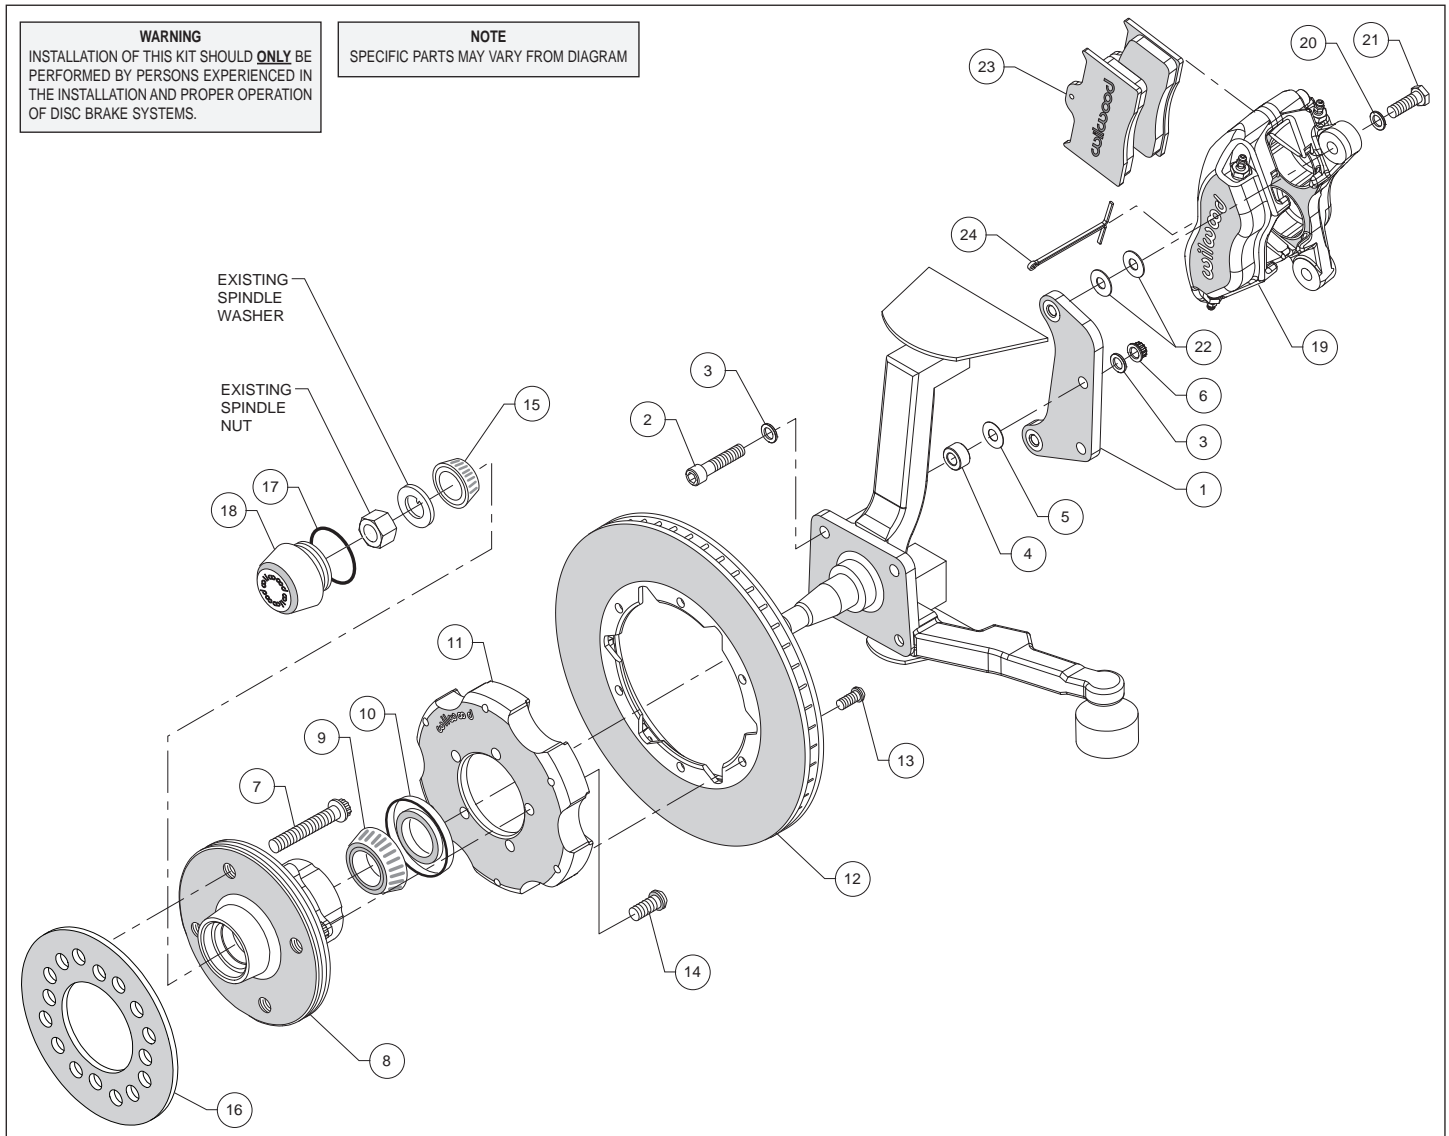
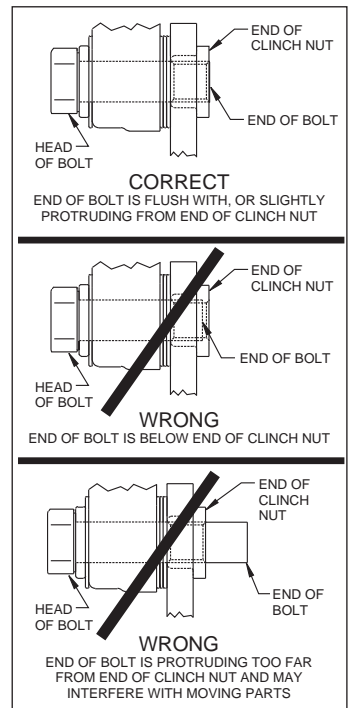

Figure 1. Typical Installation Configuration
Figure 3. Clinch Nut Engagement Diagram
Assembly Instructions (numbers in parenthesis refer to the parts list, on the preceding page and Figure 1): **CAUTION:** All mounting bolts must fully engage clinch nuts. Be sure to check that all bolts are either flush or protruding through flanged side of clinch nut after shimming, Figure 3.
- The caliper mount bracket (1) should initially be installed with clean, dry threads on the mounting bolts. Orient the bracket as shown in Figure 1 and Photo 1, and install using bolts (2), washers (3) and nuts (6). Place one spacer (4) and one shim (5) between the spindle to start, Figure 1. Ensure that the flanged heads of the clinch nuts in the bracket are facing outboard, Photo 1. Temporarily tighten the mounting nuts. **NOTE:** The bracket must fit squarely against the mounting points on the spindle. Inspect for interference from casting irregularities, machining ridges, burrs, etc.
- Check that the bracket is aligned parallel to the rotor by assembling and installing hub/rotor per steps below, Photo 2. If not, add or subtract shims (5) between spacer and bracket, Figure 1.
- Mount the hat (11) to the hub (8) using bolts (14), as shown in Figure 1 and Photo 6. Using an alternating sequence, apply red Loctite® 271 to the threads, and torque to 55 ft-lb.
- Orient the rotor (12) and the hat/hub assembly (8/11) as shown in Figure 1 and Photo 7. Attach the rotor to the hat using bolts (13). Using an alternating sequence, apply red *Loctite*® 271 to the threads, and torque to 25 ft-lb.
- Screw dust cap (18) into hub (8), Photo 9. Friction created by the o-ring (17) on the dust cap keeps it from unscrewing.
- NOTE:** Please reference the caution statement at the beginning of the assembly instructions. Mount the caliper (19) onto the caliper mounting bracket (1) using bolts (21) and washers (20), as shown in Figure 1. Initially place two .035" thick shims (22) on each bolt between the caliper and the bracket, Photo 10. Temporarily tighten the mounting bolts and view the rotor (12) through the top opening of the caliper. The rotor should be centered in the caliper, Photo 11. If not, adjust by adding or subtracting shims between the bracket and the caliper. Always use the same amount of shims on each of the two mounting bolts. **NOTE:** The end of each bolt must be flush with or slightly protruding from the head of the clinch nut, as shown in Figure 3. If necessary place spare shims between washer (20) and caliper mounting ear to achieve the proper clinch nut engagement. Once the caliper alignment and clinch nut engagement are correct, remove the bolts one at a time, apply red *Loctite*® 271 to bolt threads, and torque to 40 ft-lb.
- Install wheel spacer (25) as shown in Figure 1 and Photo 13. Temporarily install wheel and torque lug nuts to manufacturer's specification. Ensure that the wheel rotates freely without any interference. **NOTE:** Wheel spacer (25) MUST be used if any wheel contact surfaces overhang the outside diameter of the hub face. See warning on page 3.